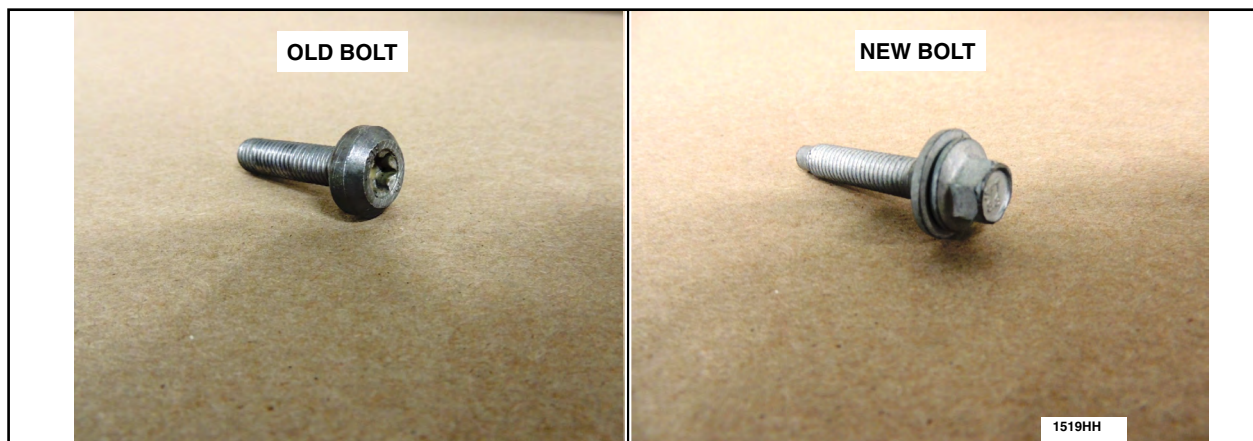

FIGURE 9
**NOTE:** This repair involves the replacement of the three steering gear motor to steering gear housing bolts. See Figures 9, 10, 11, 12 and 13.